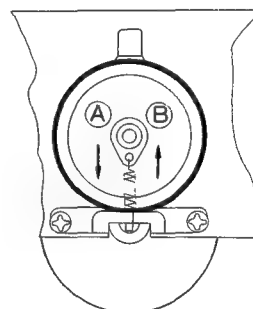

Figure 7-10.
- 2) Move the reel idler toward the center (see Figure 7-10).
- 3) Separate the reel idler from the reel motor pulley by pushing the reel idler with a tension gauge in the direction of (A) (see Figure 7-10).
- 4) Permitting the reel idler to return in the direction of (B) slowly, check that the tension gauge reads 120 ~ 127 g when the reel idler just comes into contact with the reel motor.